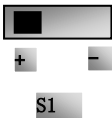
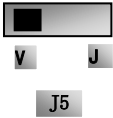

Fig 5-6
Fig 5-7
(7) There is a toggle switch S1 at the side of control terminals, please refer to Fig 5-6. S1 is used to select the voltage input range of AI1 channel. When turning S1 to “+”, the input range is 0~10V, when turning S1 to “-”, the input range is -10~10V.
(8) Close the switch DI3, the motor starts forward running;
(9) The potentiometer can be adjusted and set during running, and the current setting frequency of the inverter can be changed;
(10) During running process, switch off the switch DI3, then, close DI4, the running direction of the motor will be changed;
(11) Switch off the switches DI3 and DI4, the motor will decelerate until it stops running;
(12) Switch off the air switch, and power off the inverter.
(13) Analog output terminal AO2 can only output current signal, AO1 terminal can output voltage and current signal, the selecting switch is J5, please refer to Fig 5-7, the output relation is shown in table 5-4.